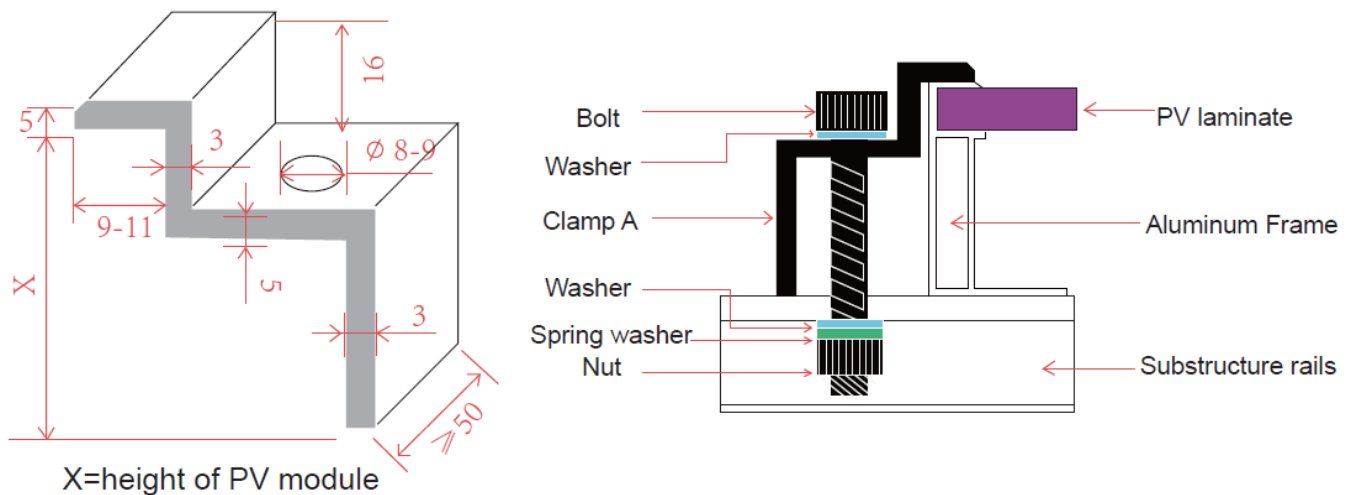
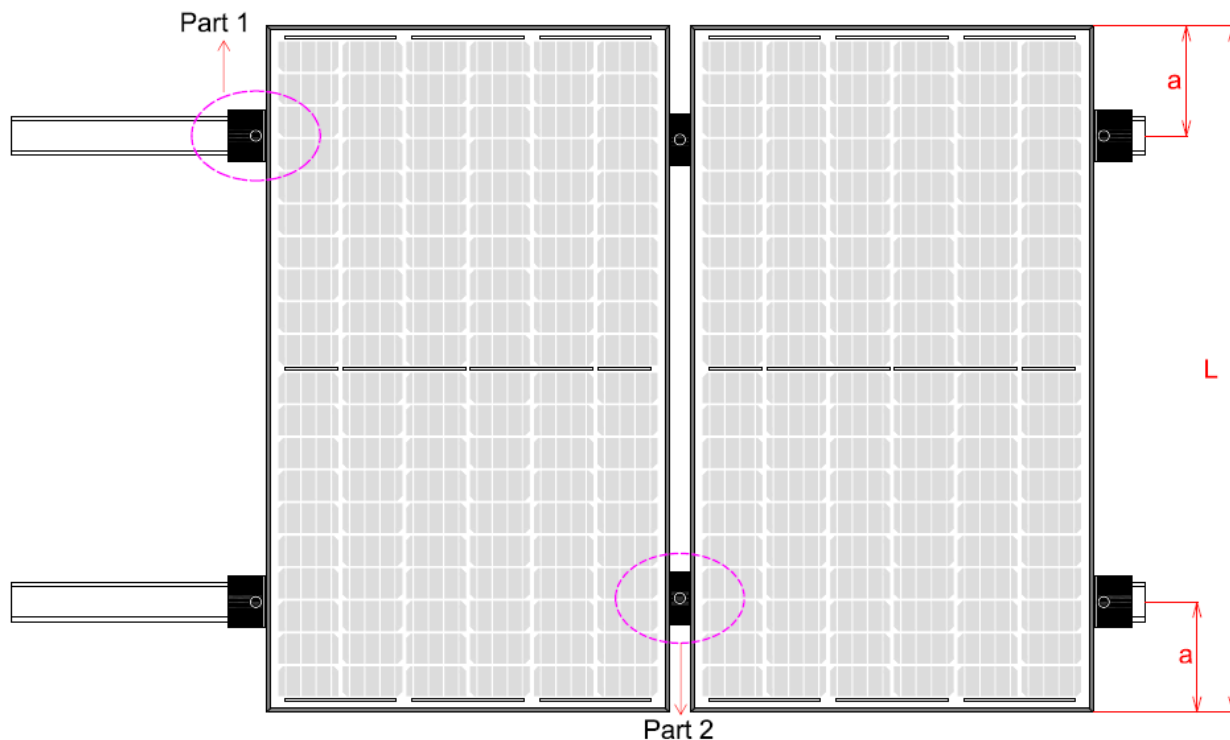
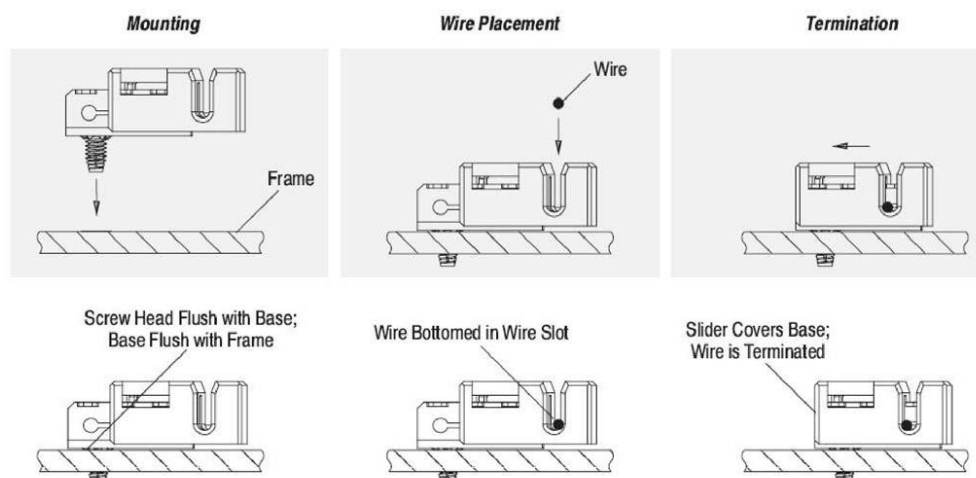

Figure 3 Clamp A
Figure 6 Mounting instruction 2
Figure 5: Installation Methods
Modules should be mounted using specialized clamps as shown in Figure 3, Figure 4, Figure 5 and Figure 6.
F) Mounting method (showed in Figure 5): $a=1/4*L$